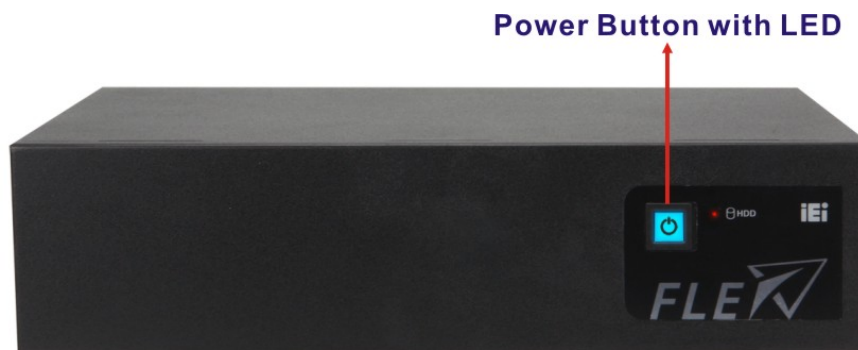

Figure 3-24: Power Button
Step 2: Short-press the power button on the front panel to power up the system. The power LED lights on in blue (**Figure 3-24**).